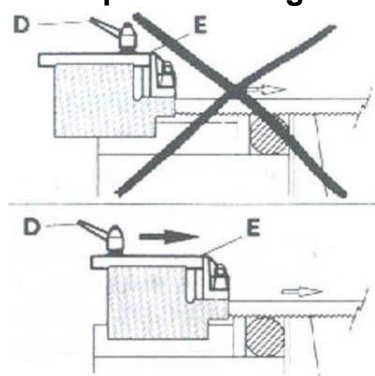

Fig.: 2
Your cutting machine is provided with a sliding guide(E) with built-in protection, which guides the part of the blade necessary to make the cut, and at the same time, protects the part of the blade not in use. To do this, simply slacken the handle (D) and slide the blade guide (E) so as to bring it closer to or farther from the piece that is to be cut (as clearly shown in fig.2).